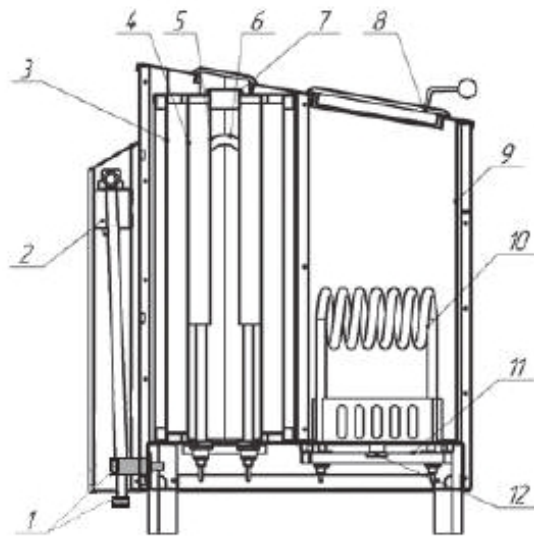

Fig. 3 Design of heater
Through a heat-insulated water tank (no. 3 in Fig. 3, 4), a box-section channel is laid (no. 4, Fig. 3, 4), in which tubular heating elements (no. 6, Fig. 3, 4) are installed. Water is heated up to its boiling due to heat transfer through channel walls, from tubular heating elements to water. In the channel steam ducts are installed (no. 5, Fig. 3, 4), through which steam is transferred to a lower channel part, where it is mixed with air, which incomes from the bottom. Due to convective streams, the air-steam mixture flows upwards, is heated to 300-330 °C and released to the room through a nozzle (no. 7, Fig. 3, 4). The tank is filled and re-filled with water automatically, through a valve on a back of the enclosure. (no. 2, Fig. 3, 4).
The stone heating unit is a heat-insulated steel tank (no. 9 Fig. 3, 4), in which tubular heating elements (no. 10, Fig. 3, 4) are installed. A steam-generating stone is laid into the tank. At the top, a heat insulated door(s) is available (no. 8, Fig 3, 4), which allows either using of some heat for room heating (the door(s) is/are open) or using all the heat for heating of the stone mass (the door(s) is/are closed). The tubular heating elements are installed on a foundation (no. 11, Fig. 3, 4), which is equipped with bimetal thermostats (no. 12, Fig. 3, 4), which cut the power of tubular heating elements after reaching of a certain temperature inside the tank.
1.4.7 Water is supplied to the Electric heater from an external water supply system or external storage tank. Water is supplied and drained via supply hose and drain nipple (no. 1, Fig. 3, 4) in the back of the electric heater panel, under a removable case.